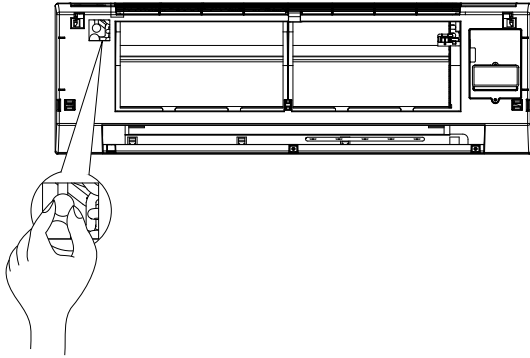

fig. 13
- During the first loading of water into the fan coil, make sure that the residual air in the circuit is vented correctly, using the appropriate valve positioned as shown in “fig. 13”.